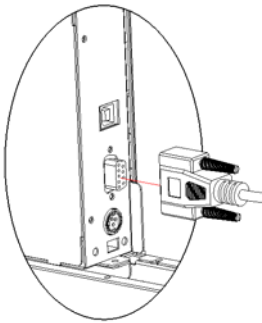

Fig.4.5-1
2. Connect the series interface cable, parallel interface cable and USB cable into a relevant interface of the printer, and fix them with screws or spanner springs (see figure 4.5-1,4.6-2,4.7-3);